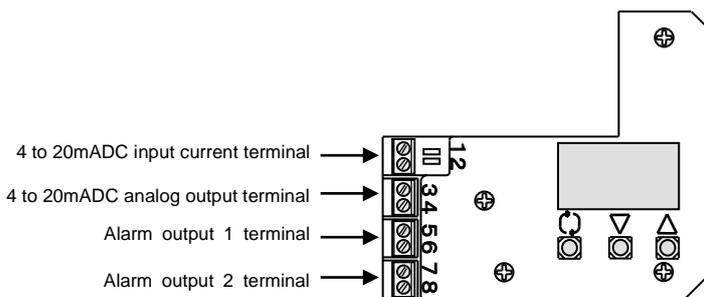

Fig. 10
- (1) Remove the positioner body cover.
- (2) Connect input current wiring from an adjusting meter (controller) and each output wiring following Fig 10*¹.